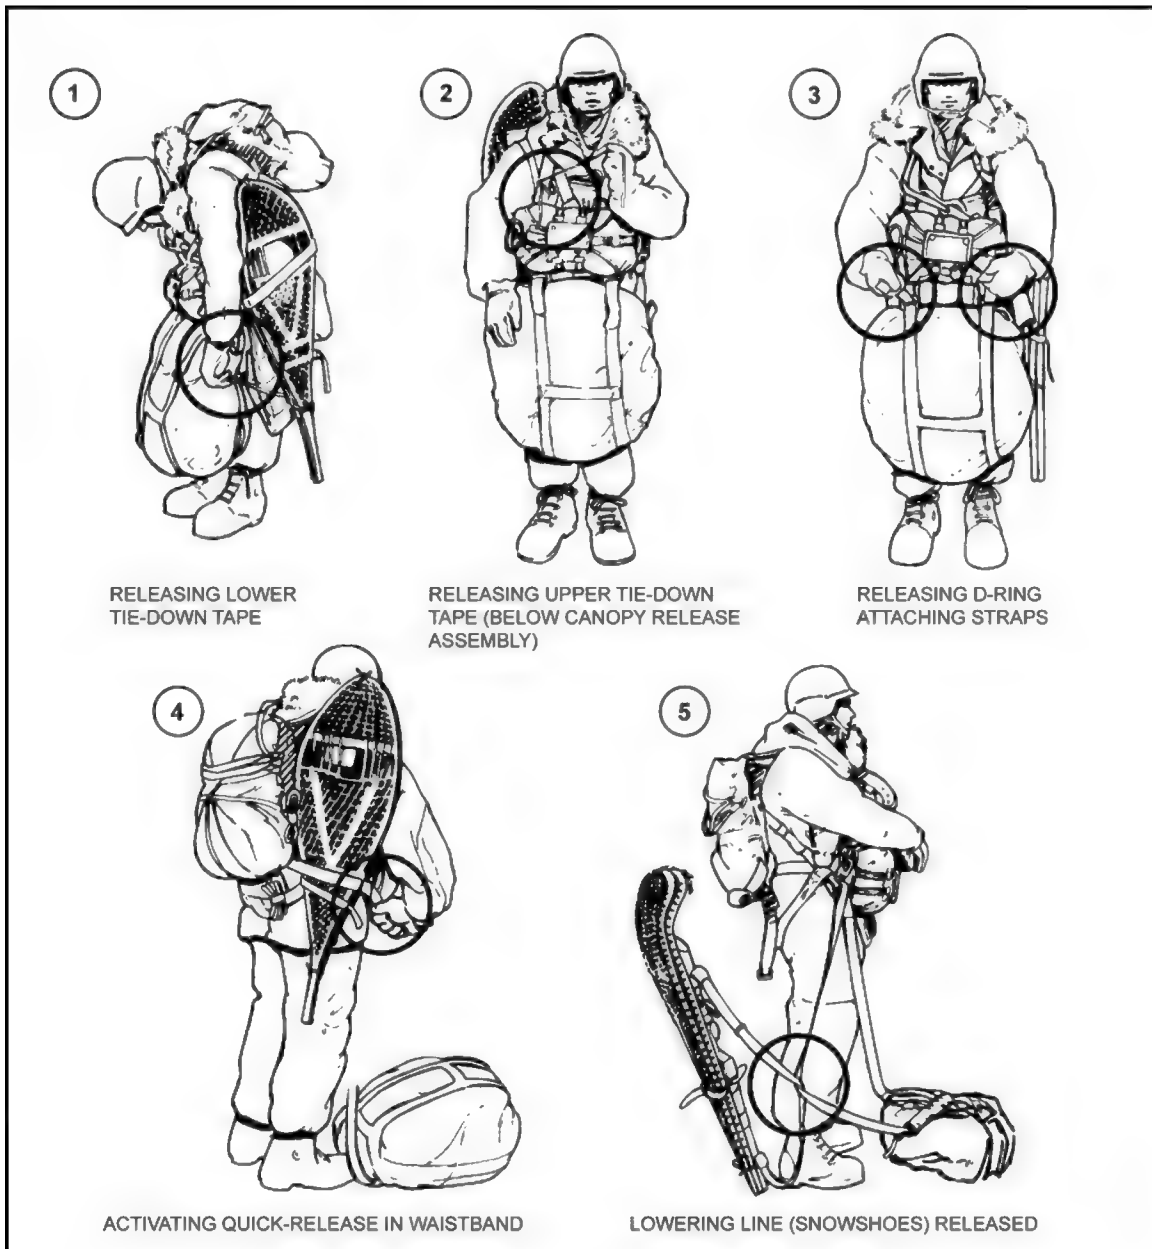

Figure 13-10. Arctic equipment released and lowered.
d. The upper tie-down tape (above the chest strap and below the canopy release assembly) and the lower tie-down tape around the parachutist's leg are untied, and the load is dropped by pulling the white release handle located on the cross strap of the HSPR. This ensures that the pack load falls the length of the line. The modified waistband quick-release fold is pulled and releases the snowshoes, which slide down the lowering line on top of the pack (Figure 13-10, page 13-9).